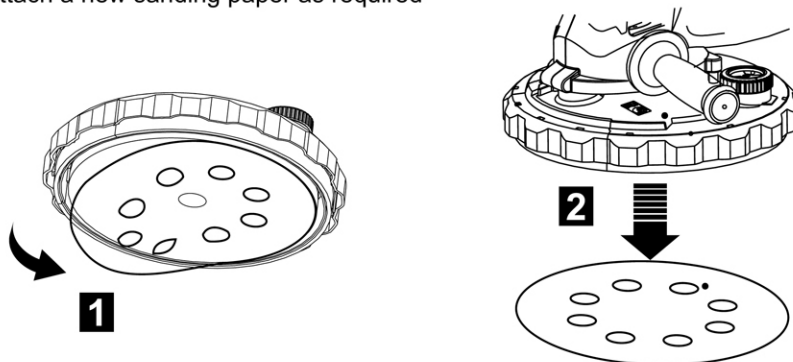

Fig. 3
- > Grip one corner of the sanding paper (12) and pull it off the base plate (11) (Fig. 3).